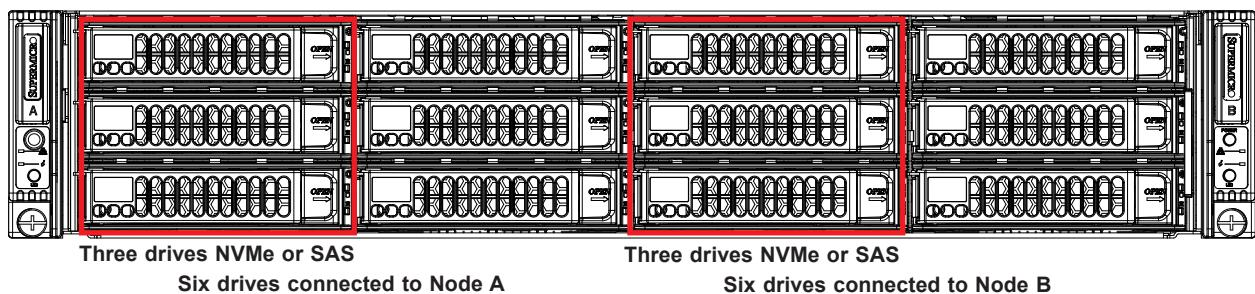

Figure 3-7. Storage Drive Configuration
2. Use the handle to pull the carrier out of the chassis (Figure 3-7).